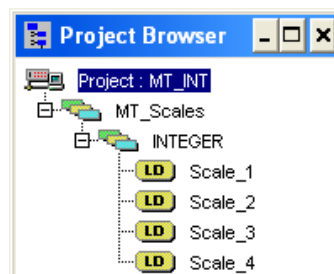

Figure 5-7: Project Viewed in Project Browser
3. Next the Network card must be configured. Double click on your project in the project browser. In this example, click on the blue highlighted (Figure 5-7) item to open the PLC Configuration window.